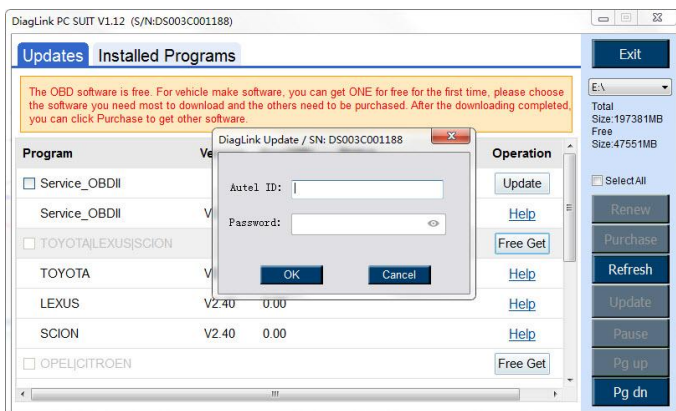

Figure 10.9
- 6) In a popped dialog box, enter your Autel ID and your password, and click **OK** (Figure 10.9).